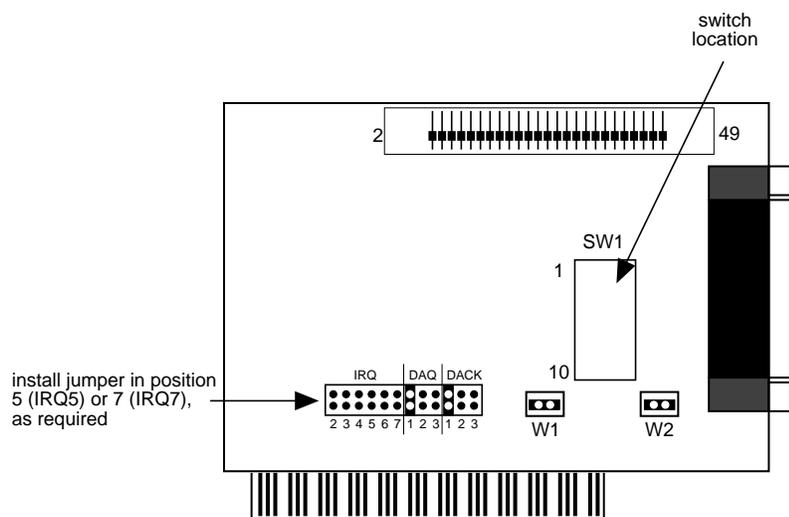
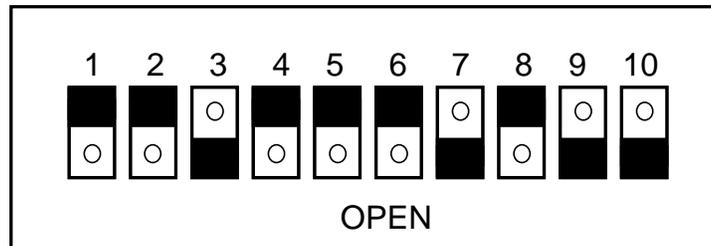

Figure 9-19. Cartridge Tape Controller Card
Figure 9-20. Cartridge Tape Controller Card Switch Settings
3. Set the switches and jumpers as indicated in the Figure 9-19 and Figure 9-20.